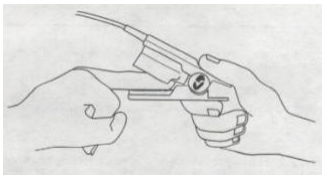

Figure 7-4 SPO2 sensor placement
2. Attach the sensor to the appropriate site of the patient finger (Refer to figure 7-4 for proper method).